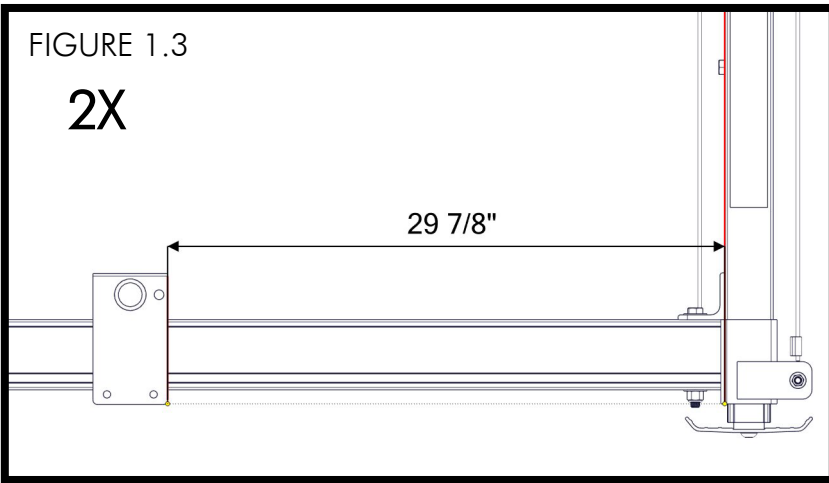

FIGURE 1.4
POSITION CLAMPS 29 7/8" FROM THE CORNER POST (FIGURE 1.3). ATTACH CLAMPS TOGETHER USING (1) 1/2" X 2 1/4" BOLT, (2) 3/8" X 2 1/4" BOLTS (FIGURE 1.4), (1) 1/2" NYLOCK NUT, AND (2) 3/8" NYLOCK NUTS (FIGURE 1.5).